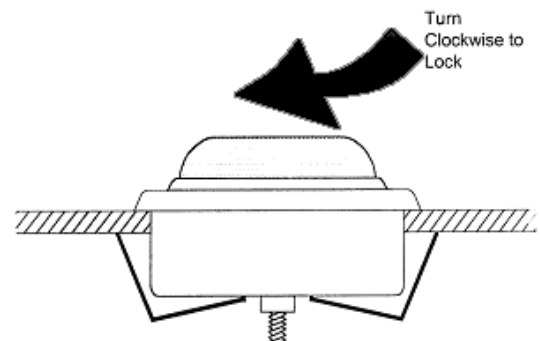

FIGURE 2
- 3) Once the cup is secure, mount the tweeter into the cup making sure to pass the tweeter wires through the openings in the cup. The tweeter will lock into the cup when turned clockwise. See Figure 2.